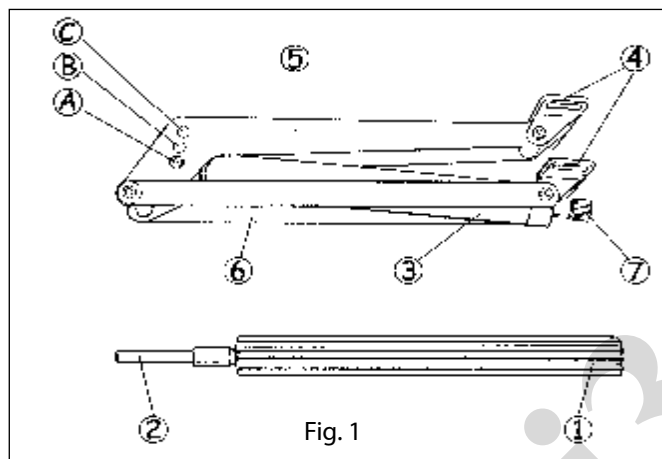

Fig. 1
## COMPONENTS: (see fig. 1)
- pos. A = 48 cm lifting 15 kg see fig. 1
pos. B = 40 cm lifting 22 kg see fig. 1
pos. C = 30 cm lifting 30 kg see fig. 1